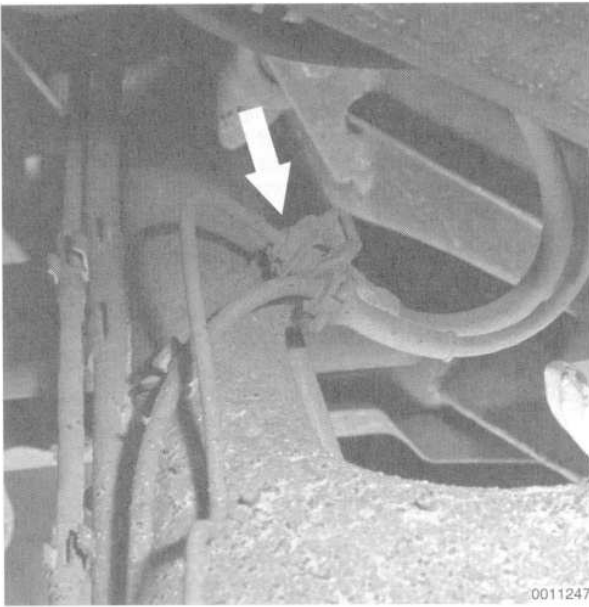

Fig. 13. Rear brake line union (arrow) on top of the trailing arm.
- Disconnect the rear brake line at the union shown in Fig. 13. Drain the brake fluid or plug the line.